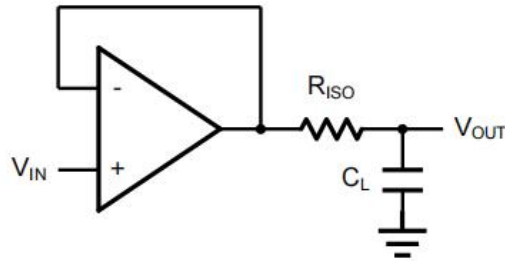
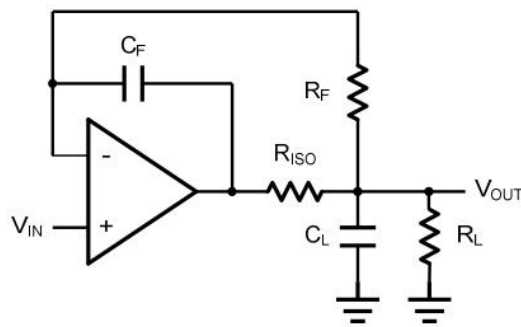

Figure 2. Indirectly Driving a Capacitive Load Using Isolation Resistor
Figure 3. Indirectly Driving a Capacitive Load with DC Accuracy
The HGV863x family is optimized for bandwidth and speed, not for driving capacitive loads. Output capacitance will create a pole in the amplifier's feedback path, leading to excessive peaking and potential oscillation. If dealing with load capacitance is a requirement of the application, the two strategies to consider are (1) using a small resistor in series with the amplifier's output and the load capacitance and (2) reducing the bandwidth of the amplifier's feedback loop by increasing the overall noise gain. Figure 2. shows a unity gain follower using the series resistor strategy. The resistor isolates the output from the capacitance and, more importantly, creates a zero in the feedback path that compensates for the pole created by the output capacitance.
The circuit in Figure 3 is an improvement to the one in Figure 2. R_F provides the DC accuracy by feed-forward the V_{IN} to R_L . C_F and R_{ISO} serve to counteract the loss of phase margin by feeding the high frequency component of the output signal back to the amplifier's inverting input, thereby preserving the phase margin in the overall feedback loop. Capacitive drive can be increased by increasing the value of C_F . This in turn will slow down the pulse response.